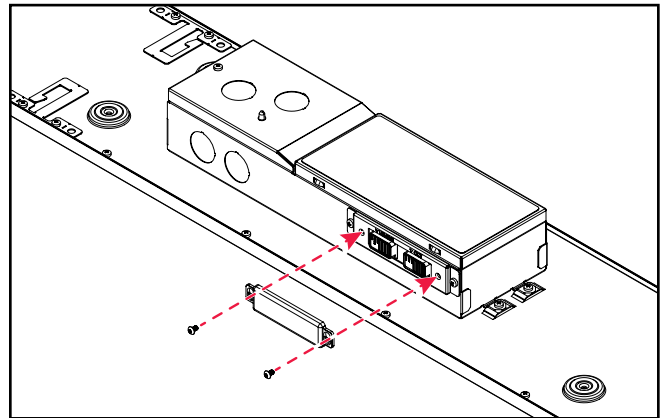

Figure 8.
- Once desired lumen level and CCT have been selected, attach provided switch cover securely using provided screws. (Figure 8.)